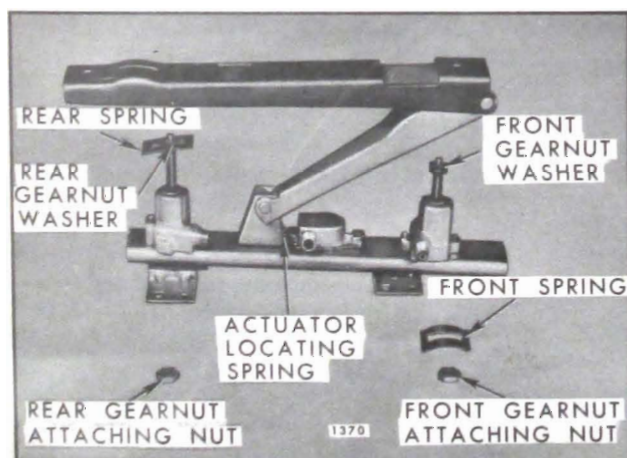

Fig. 15-13—Six-Way Seat Adjuster - "B & C" Styles
4. At top of adjuster, remove front and rear vertical gearnut attaching nuts (Fig. 15-13).
5. Remove front vertical gearnut spring (Fig. 15-13).
6. Lift upward on adjuster upper track; then remove rear vertical gearnut spring (Fig. 15-13).
IMPORTANT: Horizontal actuator is under tension from spring shown in Figure 15-13. When installing actuator, be sure actuator locating spring is properly engaged with actuator assembly.
6. Remove front vertical gearnut spring (Fig. 15-13).
8. If front vertical gearnut is being replaced with a new part, transfer gearnut washer to new gearnut assembly (Fig. 15-13).
5. At top of adjuster, remove rear vertical gearnut attaching nut (Fig. 15-13).
6. Lift rear of channel upward and remove rear vertical gearnut spring (Fig. 15-13).
8. If rear vertical gearnut is being replaced with a new part, transfer gearnut washer to new gearnut assembly (Fig. 15-13).